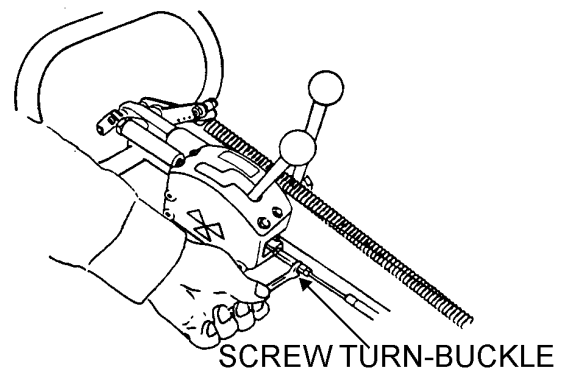

Figure 36. Adjusting the Turn-Buckle
3. If the machine moves forward, screw the turn-buckle clockwise. If the machine moves backwards, screw the turn-buckle counterclockwise (Figure 36).